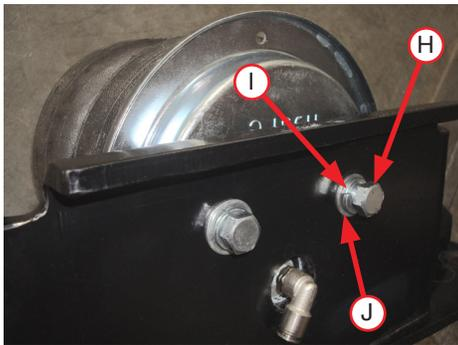

Fig. 3
2. Set the LH and RH upper brackets (B & C) onto the air spring assemblies and attach to the air springs with 3/8" hex cap screws (H), 3/8" lock washers (I) and 3/8" flat washers (J). Torque hardware to no more than 20 lb.-ft. (27Nm) (Figs. 3 & 4).